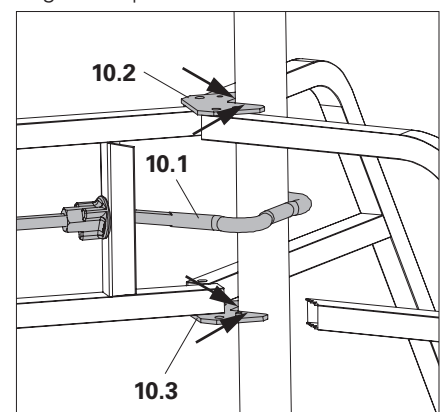

Fig. A1.04a
- Ensure that the Slab Prop lies flat against the top and bottom connection plate (**10.2 + 10.3**). (Fig. A1.04a)